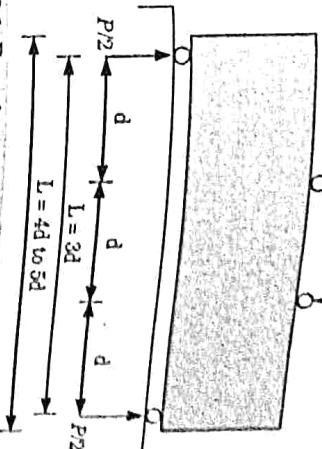

Fig. 4.18.1. Experimental arrangement for flexural strength test.
- As shown in the Fig. 4.18.1 equal load application is done at one third distance from the end supports. The reaction force is equal at the supports.